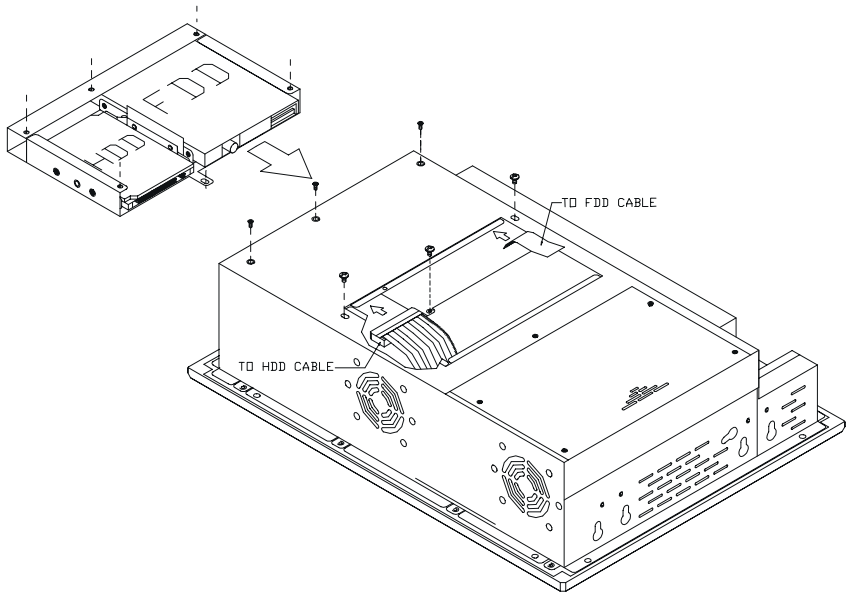

Figure 2-5: Removing the back case screws
4. Remove the five screws on the back case (see Fig. 2-5).
11. Fasten the five screws on the back case (see Fig. 2-5).